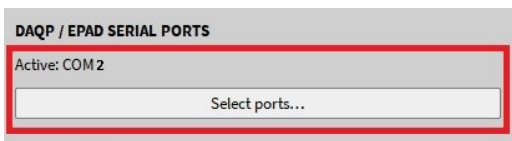

Fig. 12: Selection of the proper COM port
5. Select the proper Serial Port for your XR module by clicking on the *Select ports...* button (Fig. 12). Systems in **Euro-